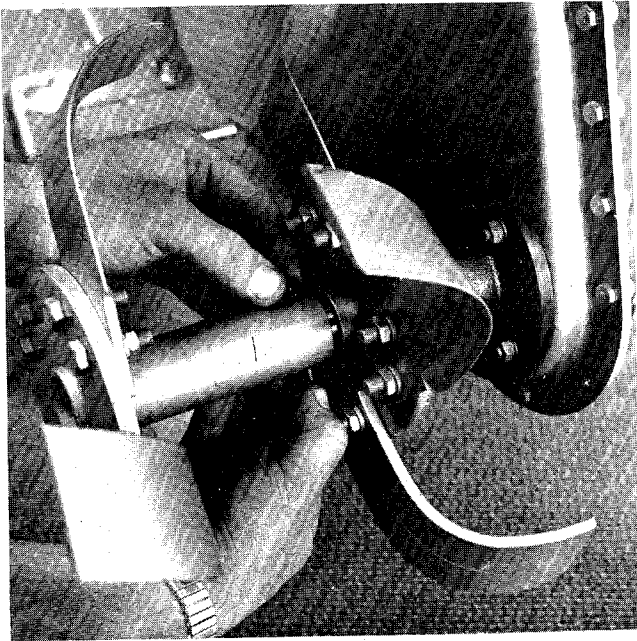

FIGURE 5. OUTER TINE ASSEMBLY
Step 2. The outer tine assemblies are inverted on the tine shaft for shipping purposes only, and MUST be removed and turned around so that the sharp edge of the tines enter the soil first. Secure with bolt O and locknut P. See figure 5.